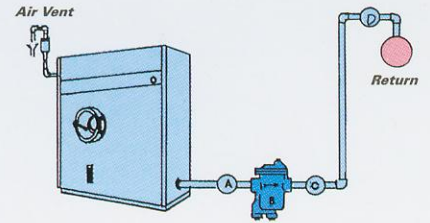

Fig. 3
2. Prime loss is usually due to sudden or frequent drops in steam pressure, On such jobs, the installation of a check valve is called for --- location A or B in Fig.3